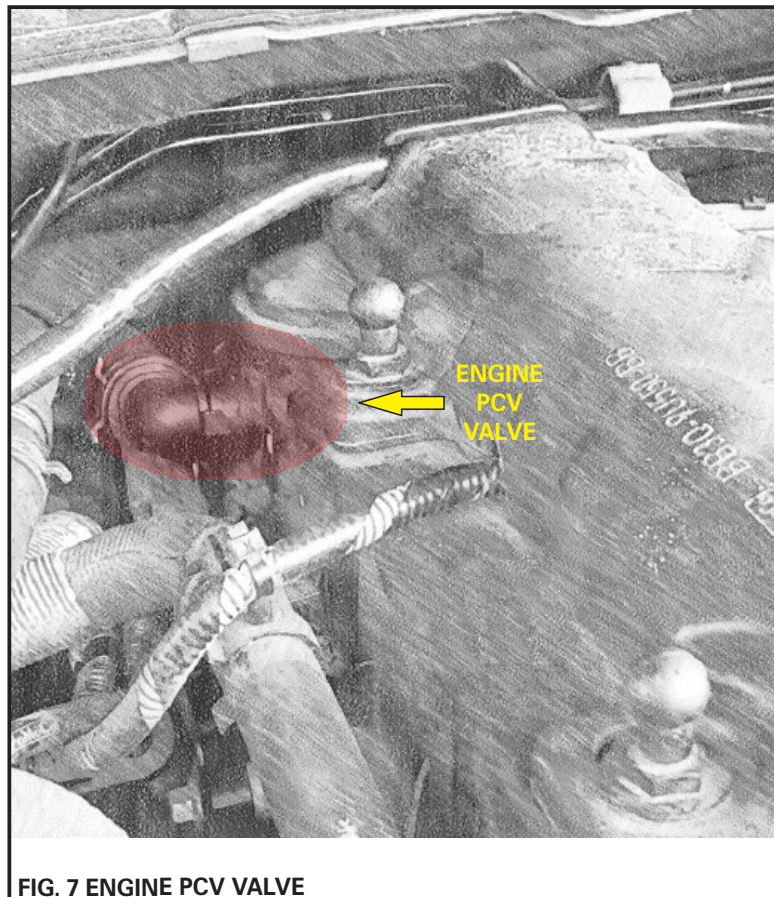

FIG. 7 ENGINE PCV VALVE
3. Locate the PCV valve on the driver side of the engine, as per Fig. 7 below.